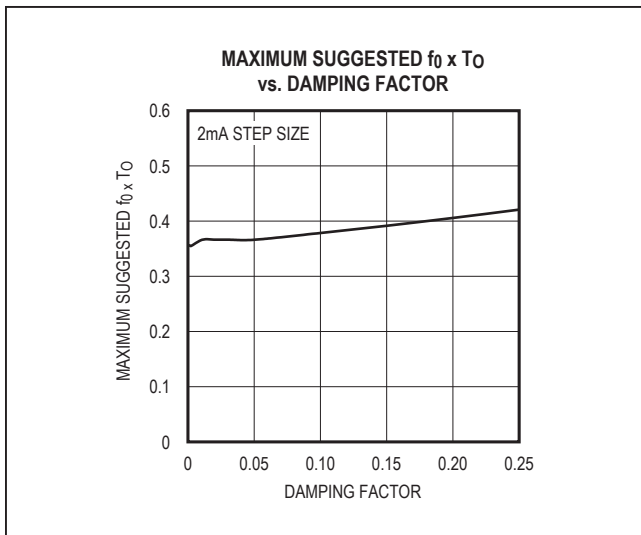

Figure 4. Maximum  $f_0 \times T_O$  Product vs.  $D_{VCM}$
- 5) Use the chart in Figure 4 to extrapolate the suggested  $f_0 \times T_O$  product.